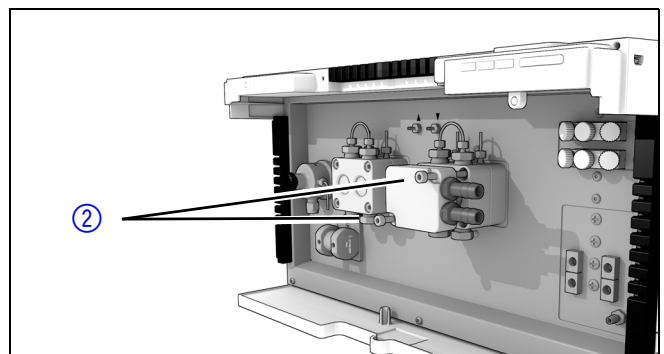

Fig. 3 Mounting the device
3. Affix it with the two longer screws ② included with the device (s. Fig 3).